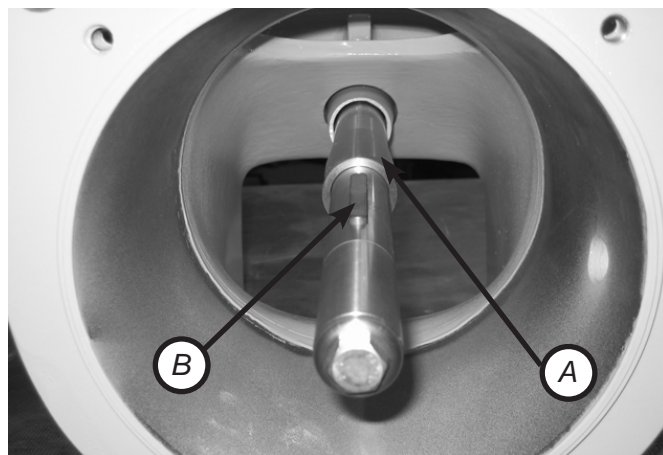

Figure 3.3-1
Place the wedge (B) in its groove (figure 3.3-1).